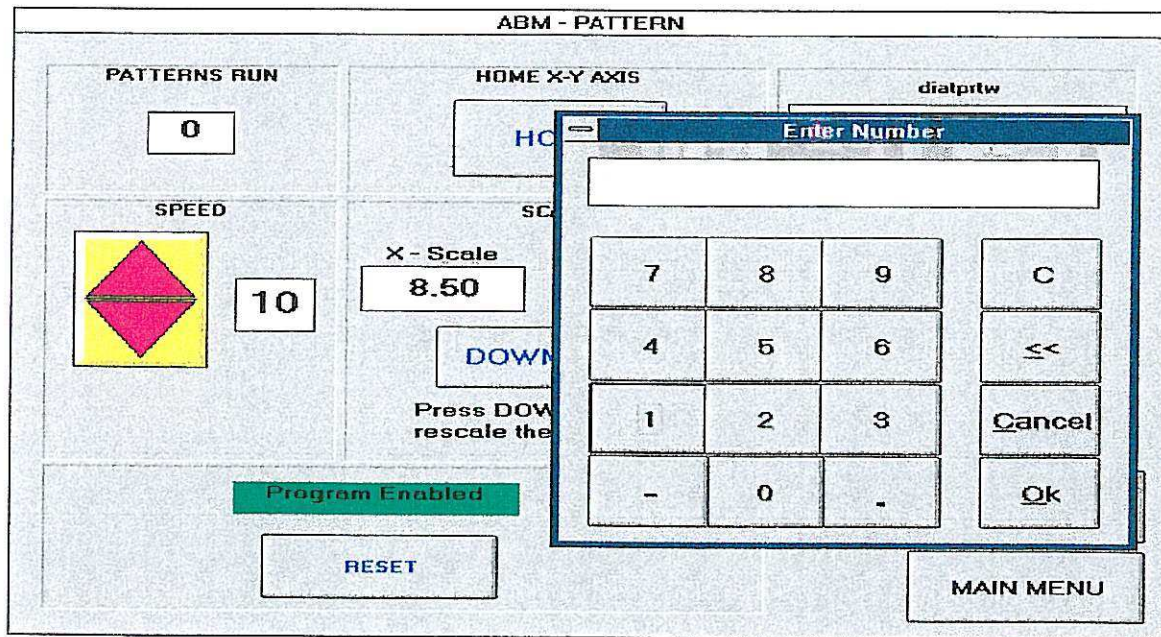

Figure 4.10
- D. Scale the pattern to desired size (scaling factor multiplied by drawing size). To scale, press the "Scale" key and the number box of the axis to be scaled (X-scale or Y-scale). A keyboard screen will appear. See Figure 4.10. Now enter the desired factors and press the "Download" key. The new sewing dimensions will appear under the pattern box.